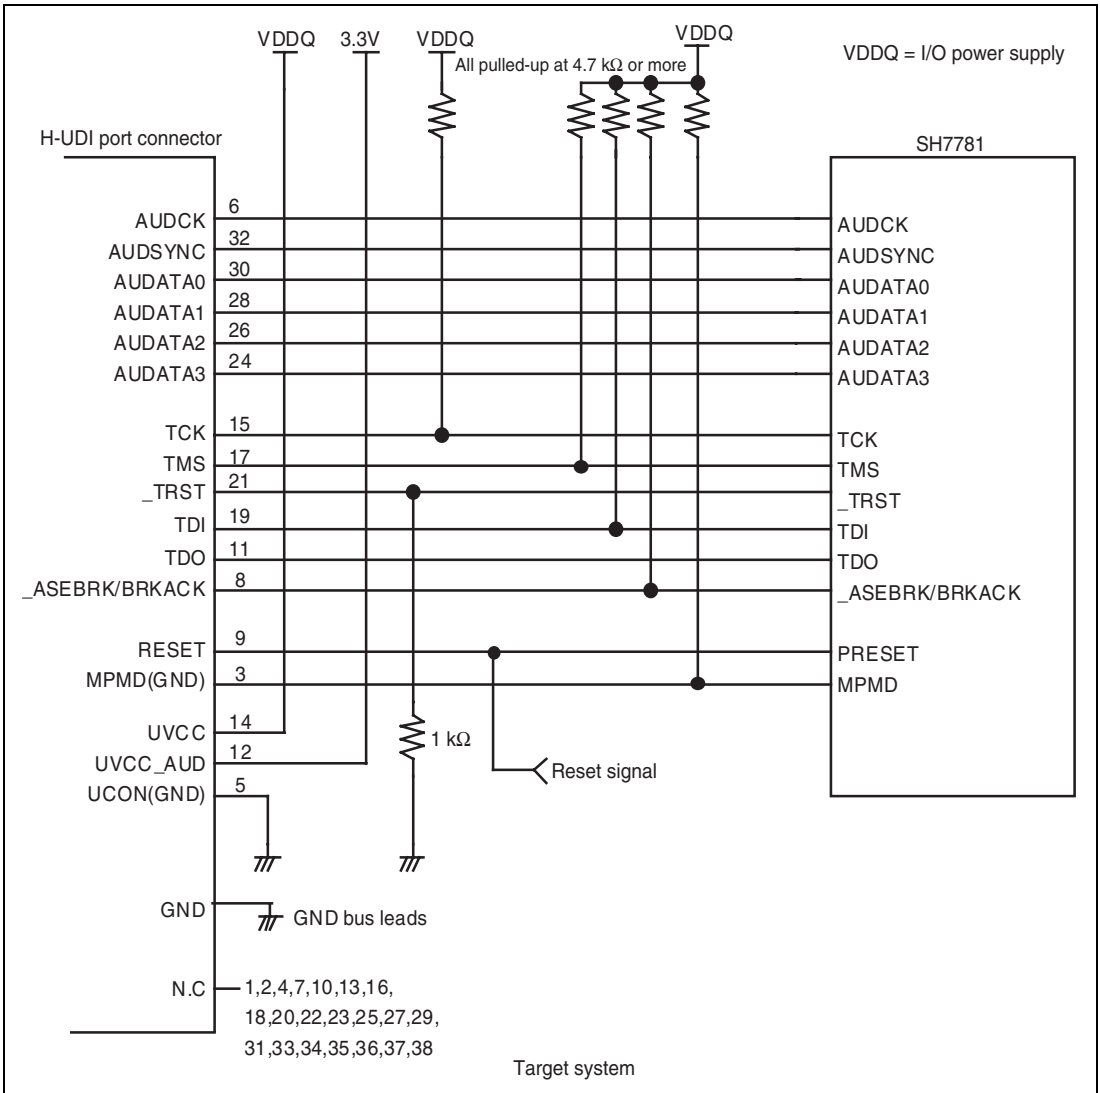

Figure 1.2 Recommended Circuit for Connection between the H-UDI Port Connector and MPU when the SH7781 E200F Emulator is in Use (38-Pin Type)
Figure 1.2 shows a recommended circuit for connection between the H-UDI port connector (38 pins) and the MPU when the emulator is in use.
(1) When the emulator is used: MPMD = 0
(2) When the emulator is not used: MPMD = 1
Figure 1.2 shows an example of circuits that allow the MPMD pin to be GND (0) whenever the emulator is connected by using the user system interface cable.
7. The resistance value shown in figure 1.2 is for reference.